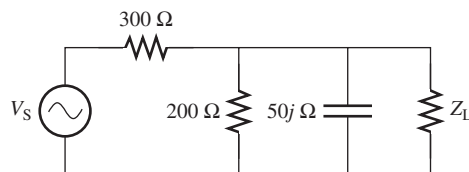

FIGURE P6.48 Circuit for Problem 6.48.
6.48 (A) Sketch the Thévenin and Norton equivalent circuit for the circuit shown in Figure P6.48, where $V_S = 20\angle 30^\circ$.